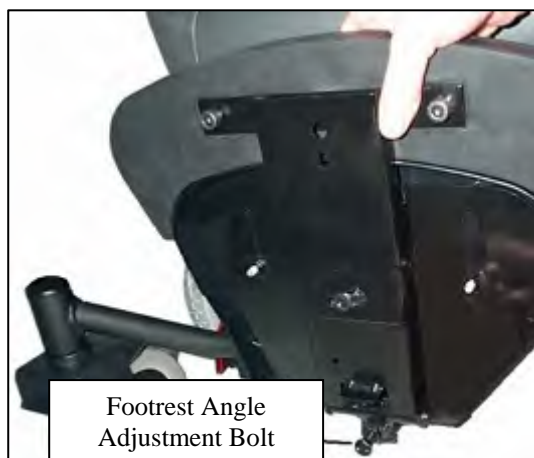

Figure 12
1. Fold the footrest upward for easy access to the angle adjustment bolt. See figure 12.